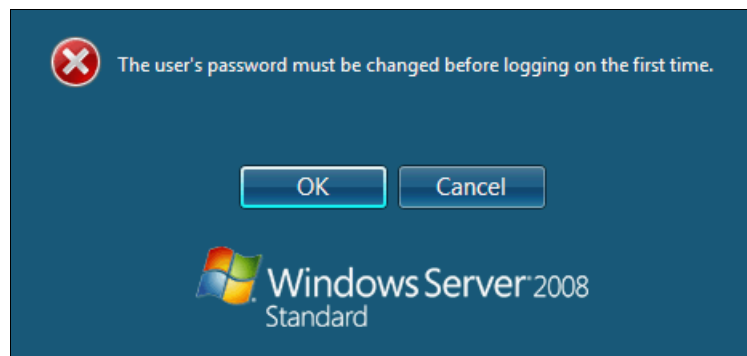

Figure 9-224 Password prompt after installing Windows
12. When Windows is done installing and you are prompted to enter a password (Figure 9-224), click **OK**, and then enter your password.